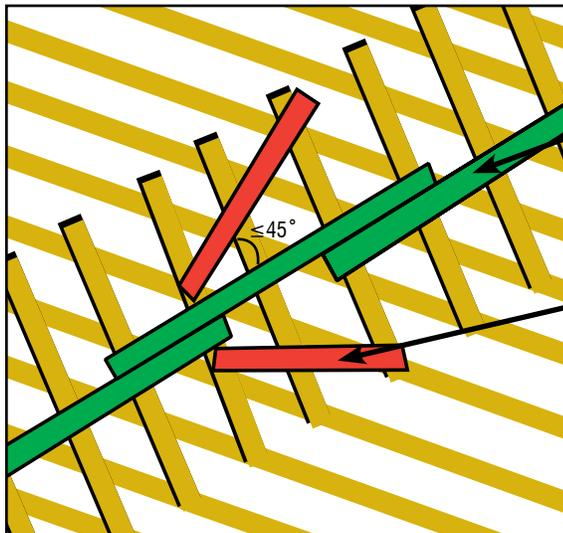

FIGURE B3-12
- ✓ Attach the Lateral Restraint at the locations shown on the TDD together with a Diagonal Brace at an angle of less than or equal to 45° to the Lateral Restraint (see Figures B3-12 and 13). Position the Diagonal Brace so that it crosses the web in close proximity to the Lateral Restraint. The Diagonal Bracing should be attached as close to the Top and Bottom Chord Plane as possible and to each web that it crosses. This provides rigidity that prevents the Webs from displacing laterally.